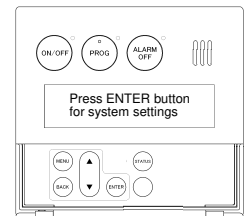

Figure 3: System settings screen
* If the system settings screen (Figure 3) is displayed, discontinue this procedure and refer to step 6) to 11) in the (Case 2) procedure below to complete the programming correctly.
6) In approximately 10 seconds, the system settings screen (Figure 3) is displayed on the remote controller.